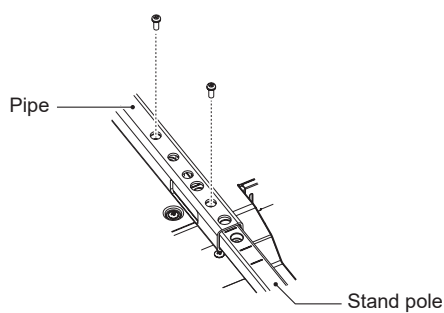

Figure 2
2. Please install the stand pole and the pipe with included screws. Please screw the two screw holes at the pipe (Figure 2).